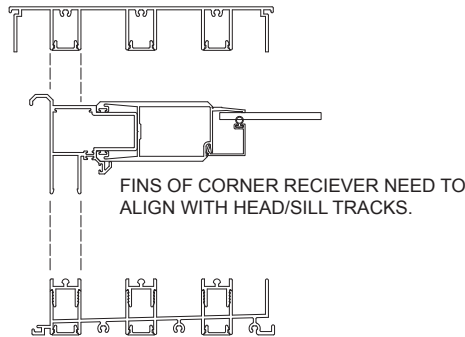

Figure 22
20. It is important that the panels at the corner are adjusted first. The corner receiving panel fins must align with the frame head and sill tracks. (See Figure 22)